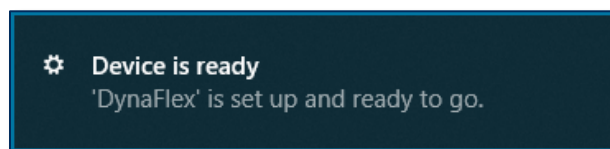
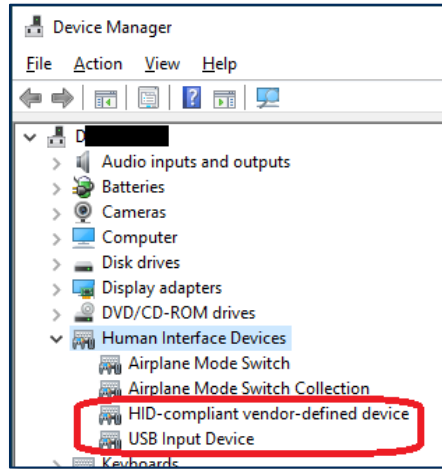
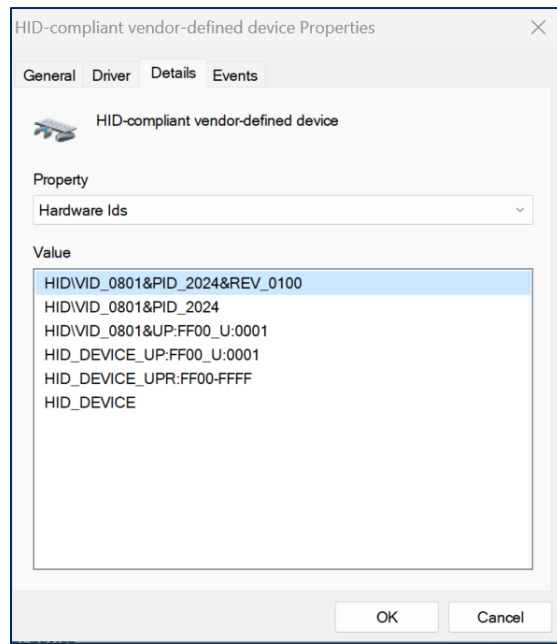

Figure 4-2 – Setup Complete
Figure 4-3 – Windows Device Manager
Figure 4-4 – HID Compliant Vendor-defined Device Properties
- 4) When installation is complete, Windows reports **Device is ready**, (see **Figure 4-2 – Setup Complete**) and the device shows in Windows Device Manager under **Human Interface Devices** (see **Figure 4-3 – Windows Device Manager**) as two devices: **HID-compliant vendor-defined device** (see **Figure 4-4 – HID Compliant Vendor-defined Device Properties**) with VID **0801** and PID **2024**, and **USB Input Device**.